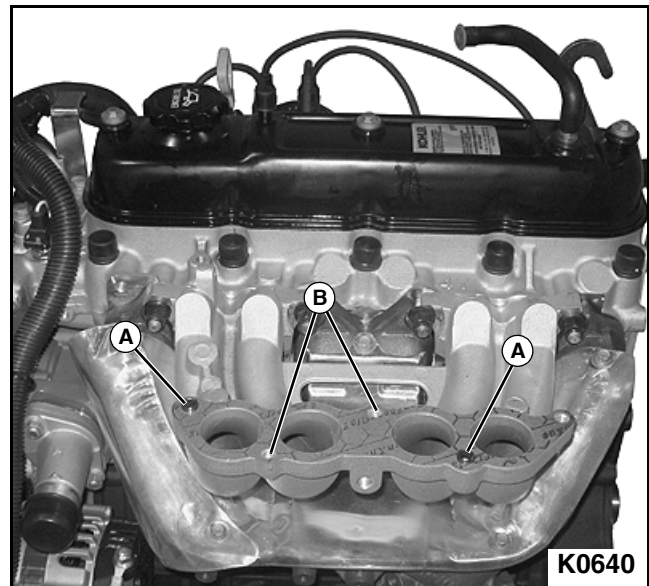

Figure 3-69
1. Inspect alignment pins (A) for distortion or looseness. **See Figure 3-69.**
2. Inspect mounting bolt holes (B) for cracks or stripped threads. **See Figure 3-69.**